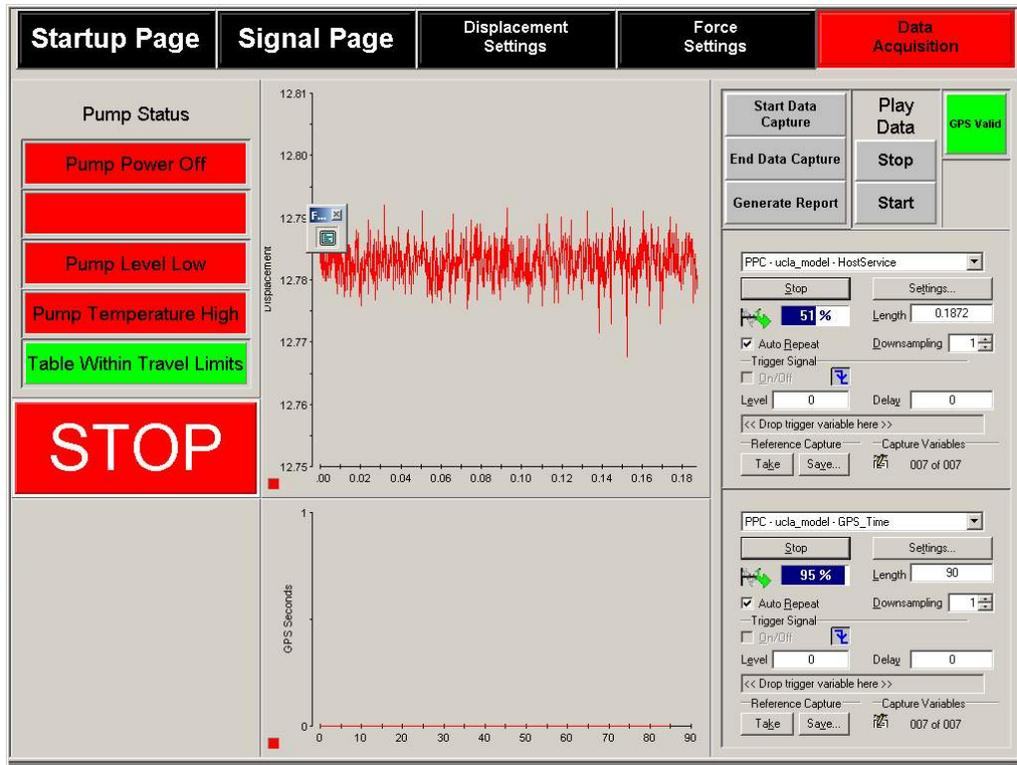

Figure 5.
- If you want to collect the data, go to "Data Acquisition Page", then press "Start Data Capture". Answer the questions. Sampling rate should be set to a factor of 5000 and not greater than 5000. See figure 5.